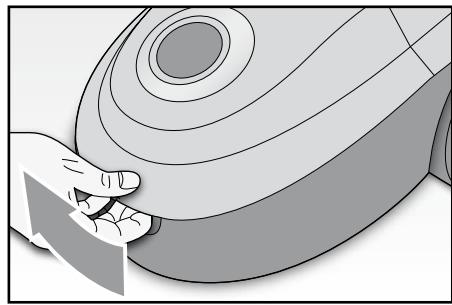

Fig. 7
- lift the bag compartment by pushing the relevant lever outwards (FIG. 7);